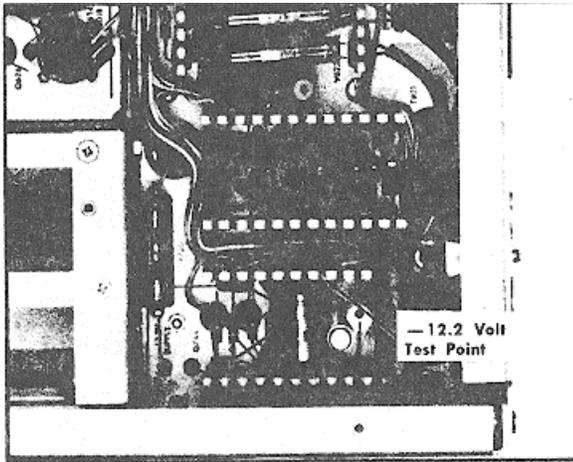

Fig. 6-6. Location of -12.2-volt test point (bottom view).
- b. Connect the DC voltmeter from the --12.2-volt test point (Fig. 6-6) to chassis ground.